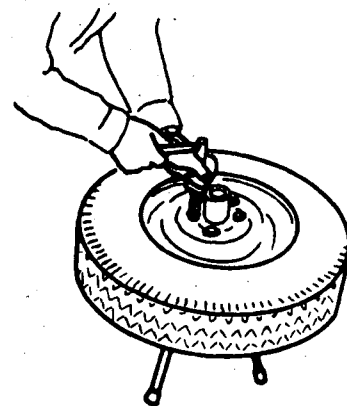

Fig. 2
- e) Fix the wheel to the flange (fig. 2).